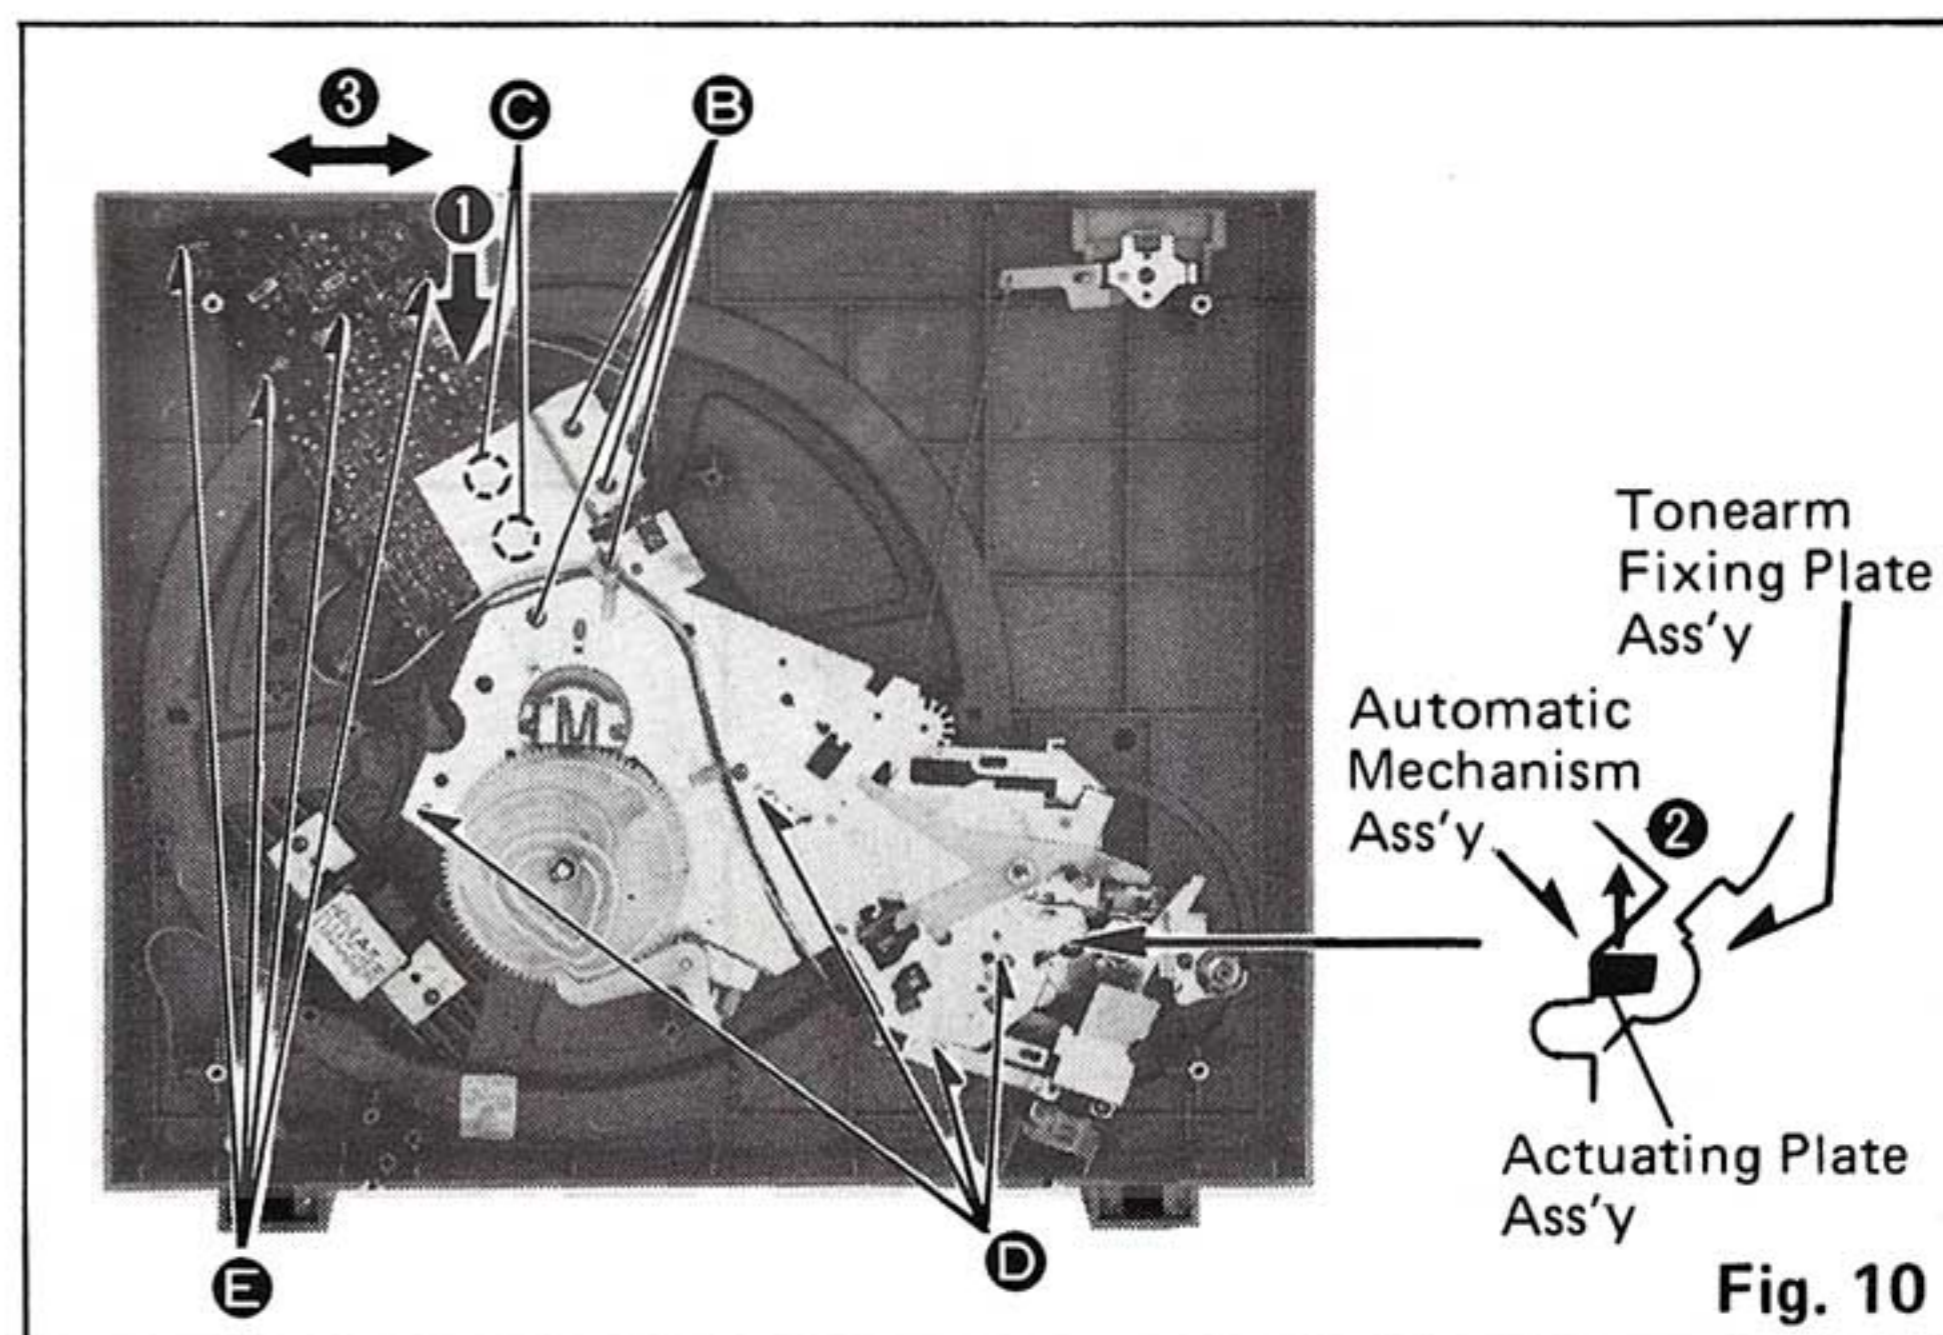

Fig. 10
### How to remove the radiating fin (Fig. 10)
### Removal of drive P.C.B. and automatic mechanism ass'y (Fig. 10)
**Note)** When assembling the mechanical and drive P.C.B., follow the procedure below. (Fig. 10)